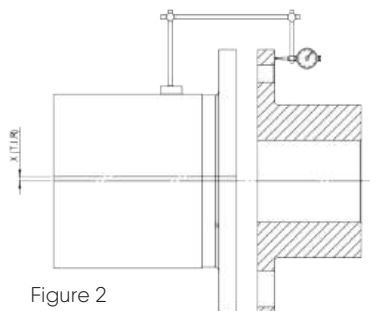

Figure 2
Alignment is measured as shown on the figure 2 (Angular alignment) & 3 (Axial alignment).
4.3.2. Mount a dial indicator on the floating shaft (spacer) and indicate the face of hub flange (See figure 2)